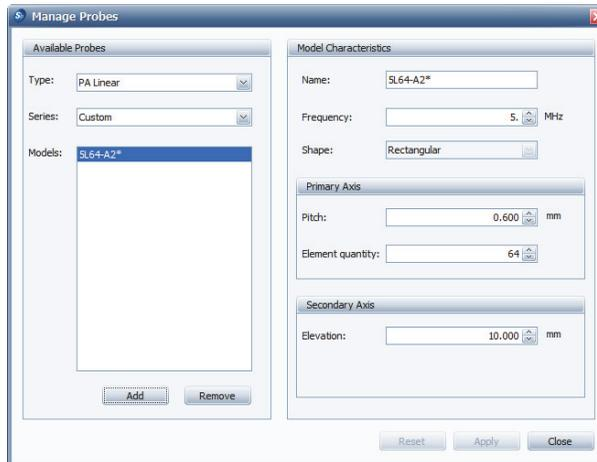

Figure 9-12 The Manage Probes dialog box and a new probe
- To delete a custom probe, select it in the **Models** list under **Available Probes**, and then click **Remove** (see Figure 9-12 on page 107).
When a custom probe is selected in the **Models** list, it is automatically populated in the **Name** box under **Model Characteristics** (see Figure 9-12 on page 107). The name of the new probe is marked by an asterisk and it can be edited. The parameters under **Model Characteristics** become available.